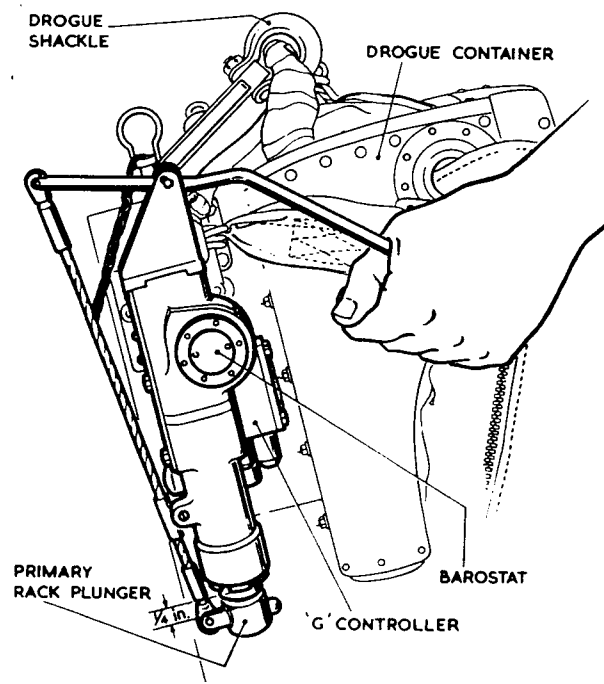

Fig 3 Checking the gears in overrun (1)
9.5 Place cocking tool cable spigot into hole in end cap of rack plunger. Press down on cocking tool handle and cock rack plunger, ensure plunger is correctly cocked by checking overrun on plunger, an approximate measurement of 0.25 in should be obtainable (fig 3).